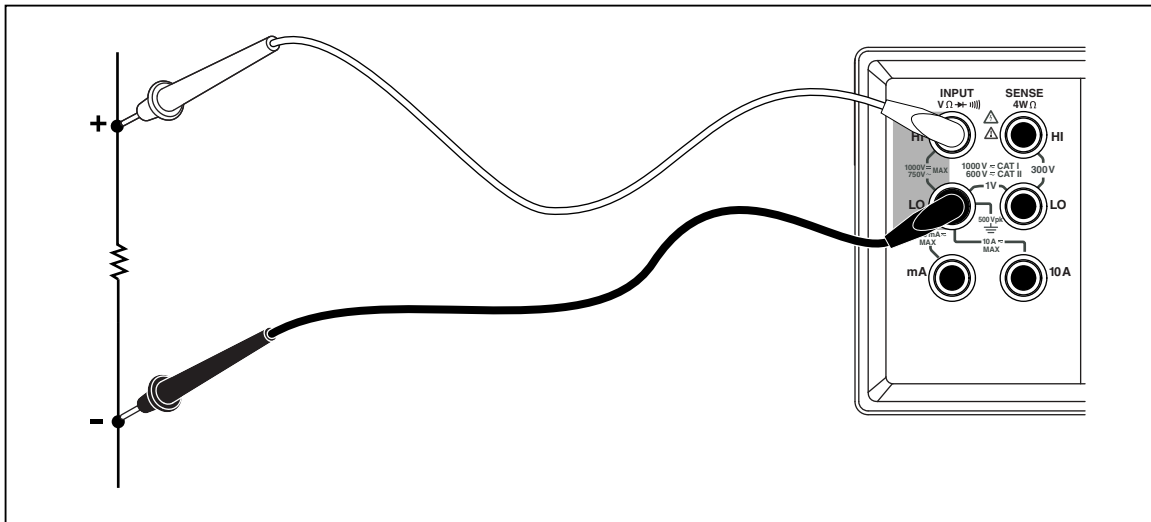

Figure 3-5. 2-Wire Resistance Measurement
1. Connect test leads between the Meter and the circuit under test as shown in Figure 3-5.